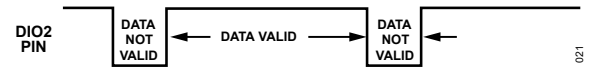

Figure 35. Data Ready when FNCTIO_CTRL, Bits[3:0] = 0xD (Default)
The factory default configuration provides users with a data ready (DR) signal on the DIO2 pin, which pulses low when the output data registers are updating (see Figure 35). In this configuration, connect DIO2 to an interrupt service pin on the embedded processor or to trigger data collection when this signal pulses high. Register FNCTIO_CTRL, Bits[3:0] (see Table 151) provides configuration options for this function.